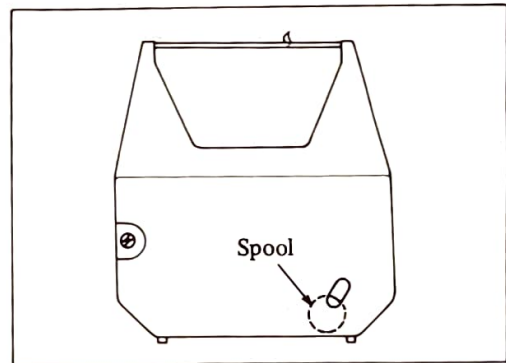

Fig. 2
Ribbon End (RE) detection function (See Fig. 2)